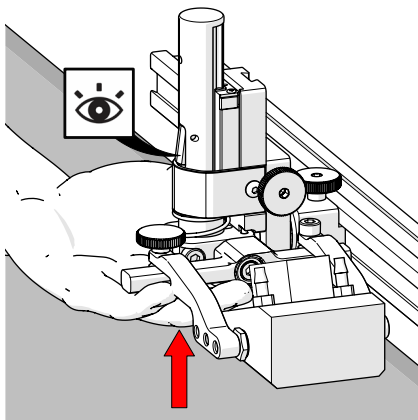
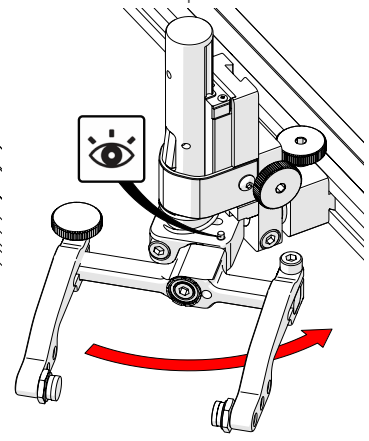

Fig. 68 - Latch probe holder
Fig. 74 - Stop post locates 90°
holder until the latch is fully exposed and snaps out to lock (Fig. 68).
1. Ensure the probe holder is in the latched upper position (Fig. 68).
To return the transverse adjustment to neutral (90°). The probe holder must be in the latched, upper position (Fig. 68). Rotate the yoke until the stop post contacts the base of the probe holder (Fig. 74). Then tighten the transverse adjustment screw.